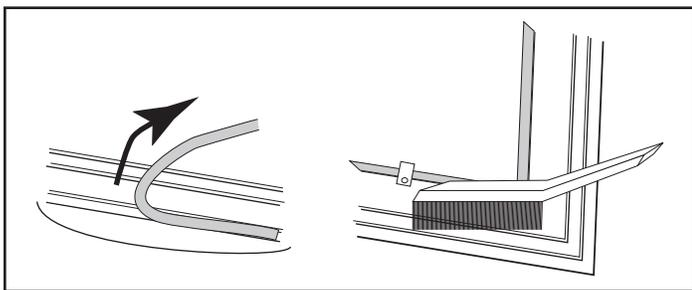

Figure 45 - Remove gasket then clean channel with wire brush.
1. Remove the existing gasket by grasping an end and pulling firmly. (Figure 45)
2. Use a wire brush or the tip of a screwdriver to clean the channel of any remaining cement or bits of gasket. Remove stubborn deposits of cement with a cold chisel if necessary. (Figure 45)